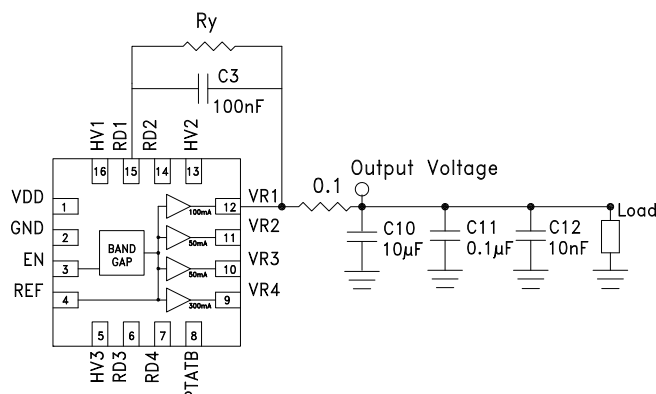

Figure 13. Recommended HMC1060LP3E configuration for supplying output voltage values less than default. [1]
The outputs of the HMC1060LP3E are configured to supply voltages less than the default values, down to 1.8 V minimum, by connecting a resistance (R_y in Figure 13) between pins VRx and RDx (where $x = 1, 2, 3, 4$). Figure 13 shows an example of configuring VR1 output. Other outputs are configured in exactly the same way (ie. R_y is added between VR2 & RD2, VR3 & RD3 and between VR4 & RD4).
- To set VR1 = VR2 = VR3 = 1.8 V in with PTAT Mode disabled, external resistance Ry = 21 kΩ shown in Figure 13 is required.